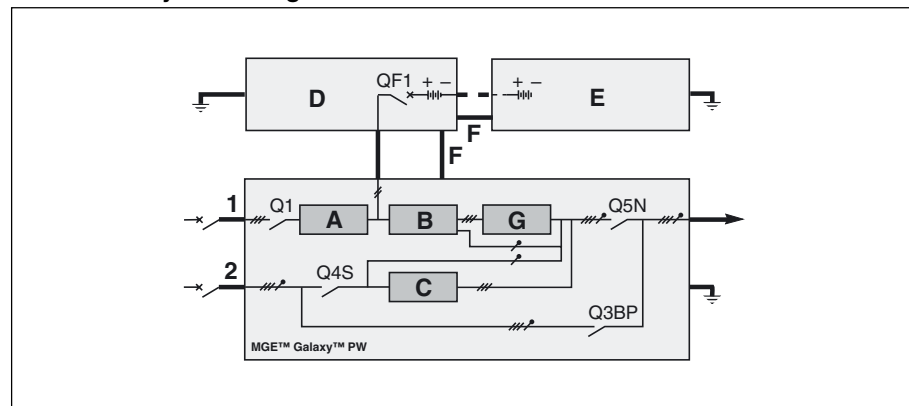

Fig. 8
The single-wire diagrams for typical UPS installations are given in figures 8 to 11. The heavy lines represent the cables that must be connected (see the table in the previous chapter for the required cross-sectional areas of the cables).
► see figure 8 for a single-UPS **MGE™ Galaxy™ PW** unit;
Key for figures 8 and 9: